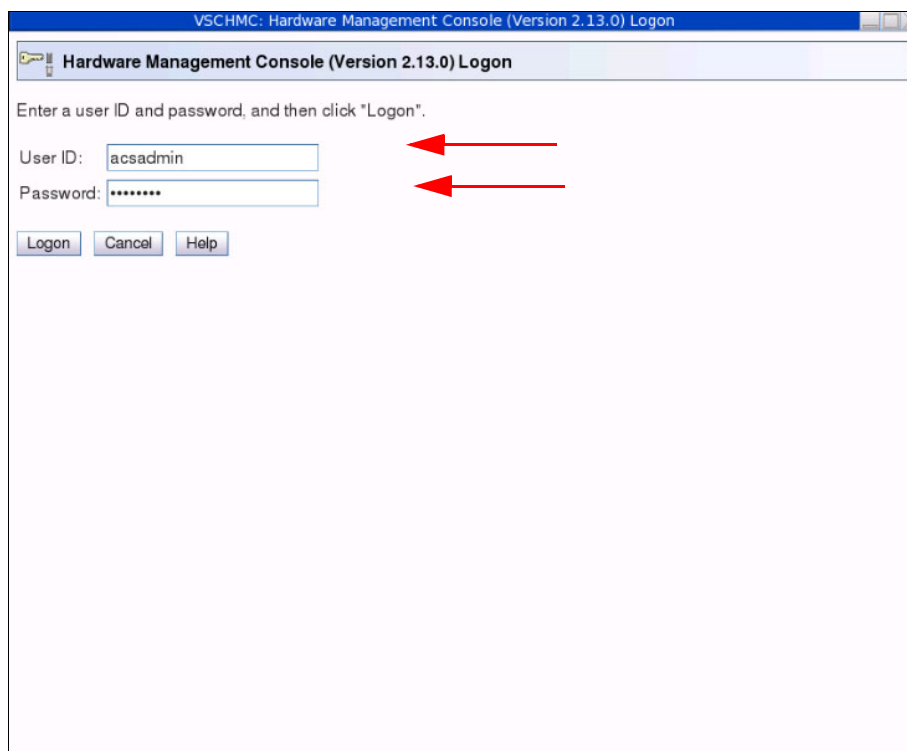

Figure 4-6 HMC logon as acsadmin
2. When the logon window opens, we enter acsadmin in the User ID field and password in the Password field, as shown in Figure 4-6. Click **Logon**.